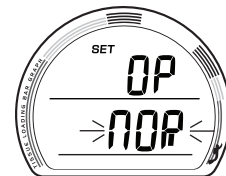

Fig. 25 - SET OP MODE
**Set OP**, information includes (Fig. 25):